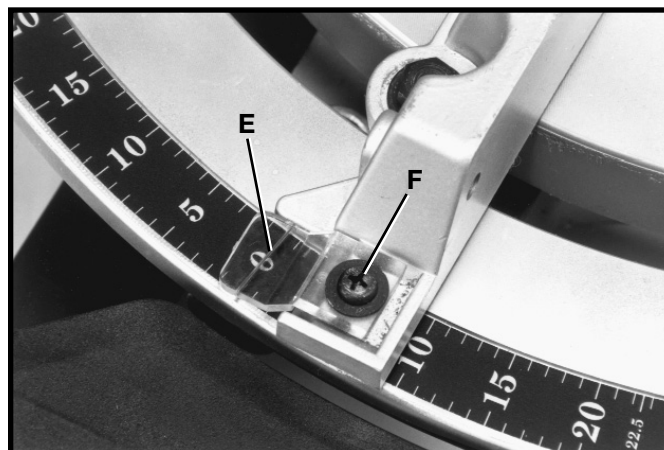

Fig. 36
5. After you are sure the fence is 90 degrees to the blade, adjust the two cursors, one of which is shown at (E) Fig. 36, so the pointer is aligned with the 0 degree mark on the scale by loosening screw (F), adjusting cursor (E) and tightening screw (F).